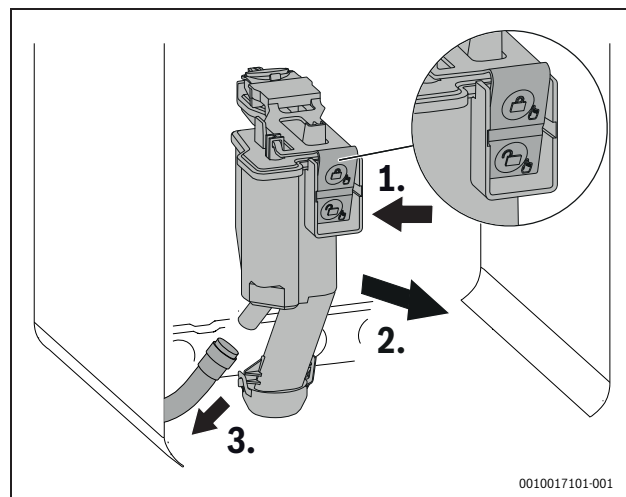

Fig. 97 Removing the condensate trap
- Remove the condensate trap (→ Fig. 97).